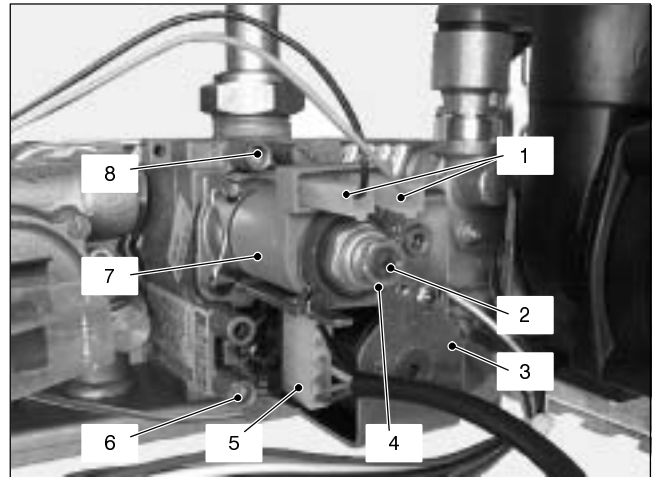

Fig. 45
### 11.2 Nomenclature of the parts (Fig. 45)
- 2 Open the gas valve inlet pressure test point (6 in Fig. 45) at the valve input, connect a suitable pressure gauge and check the gas pressure of the supply network.
- 4 Open the gas valve outlet pressure test point (8 in Fig. 45) and connect the gauge;
- 7 Rotate the maximum gas pressure adjustment (4 in Fig. 45) until you obtain the required pressure (by rotating clockwise the pressure increases).
- 8 Disconnect one of the two connectors (1 in Fig. 45) or, alternatively, remove the service panel as explained in the section 2.3 of this manual and set the dip–switch selector 1 (see section 9.5) to the OFF position.
- 9 Rotate the minimum gas pressure adjustment (2 in Fig. 45) until you obtain the required pressure (by rotating clockwise the pressure increases).